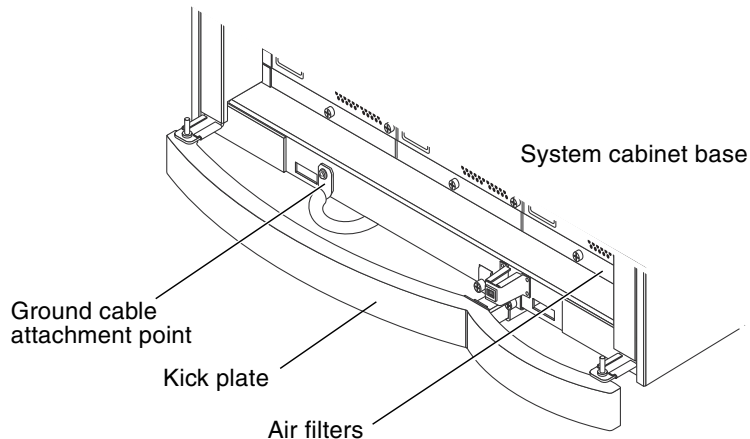

FIGURE 2-4 Ground Cable Attachment Point at System Cabinet
3. Attach the ground cable to the system, behind the kick plate, at the bottom of the frame base as shown in FIGURE 2-4.